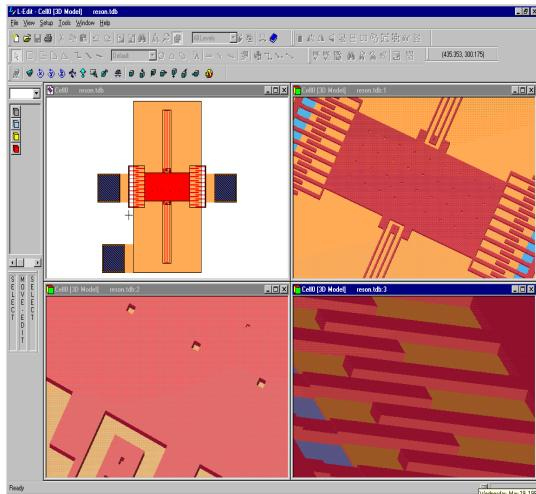

Figure 29: Tiling the windows displaying the 3D generation steps
- Select **Window > Tile** to tile the windows. All open windows will be resized so that they fit without overlapping (Figure 29). Each 3D model view may be manipulated independently.